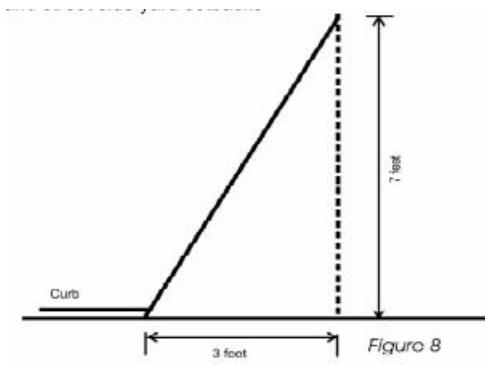

Figure 8
**F. TRIANGULAR FLARE** Each driveway, when located within the public-right-of-way shall contain triangular driveway flares at the intersection of the driveway and the public roadway. Driveway triangular flares shall measure three (3) feet in width and seven (7) feet in length (See figure 8.)